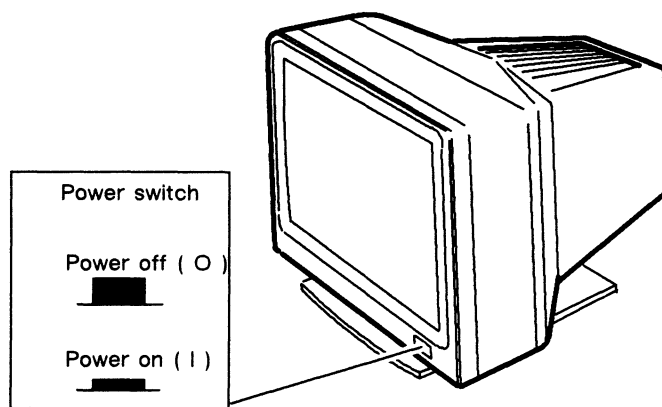

Figure 3-1 Monitor Power Switch
1. Turn on the monitor. Figure 3-1 shows the location of the monitor power switch.